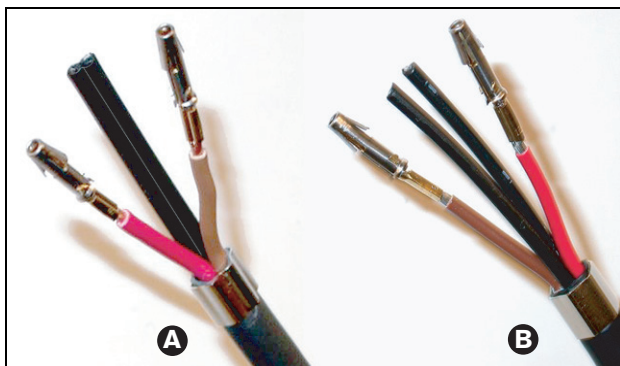

figure 30.15: Installed socket contacts
- 12 Repeat steps 10 and 11 for the other stripped, copper wire. See figure 30.15 for the result of this part of the cable-connector installation procedure.